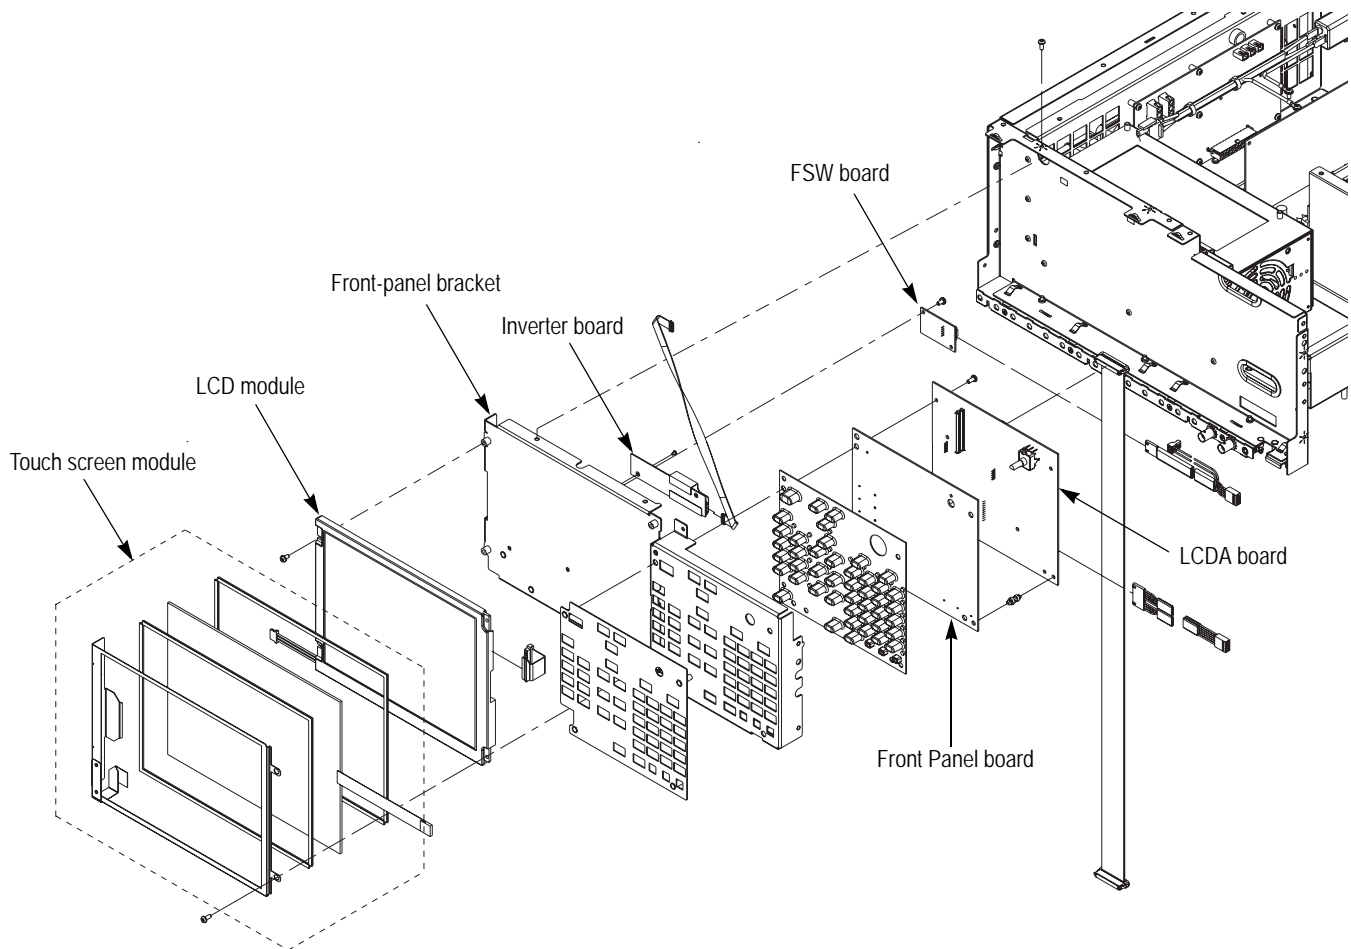

Figure 4-6: Disassembly of front-panel assembly
**Front-Panel Unit** You need a screwdriver with a T-15 Torx tip (items 1 and 2).
**Removal.** To remove the front-panel unit, refer to Figure 4-6 on page 4-16 and follow these steps:
**Front-Panel Assembly** You need a a screwdriver with a T-15 Torx tip (items 1 and 2).
**Removal.** To remove the front-panel assembly, refer to Figure 4-6 on page 4-16 and follow these steps:
5. Disassemble the front-panel assembly components, using Figure 4-6 as a guide.